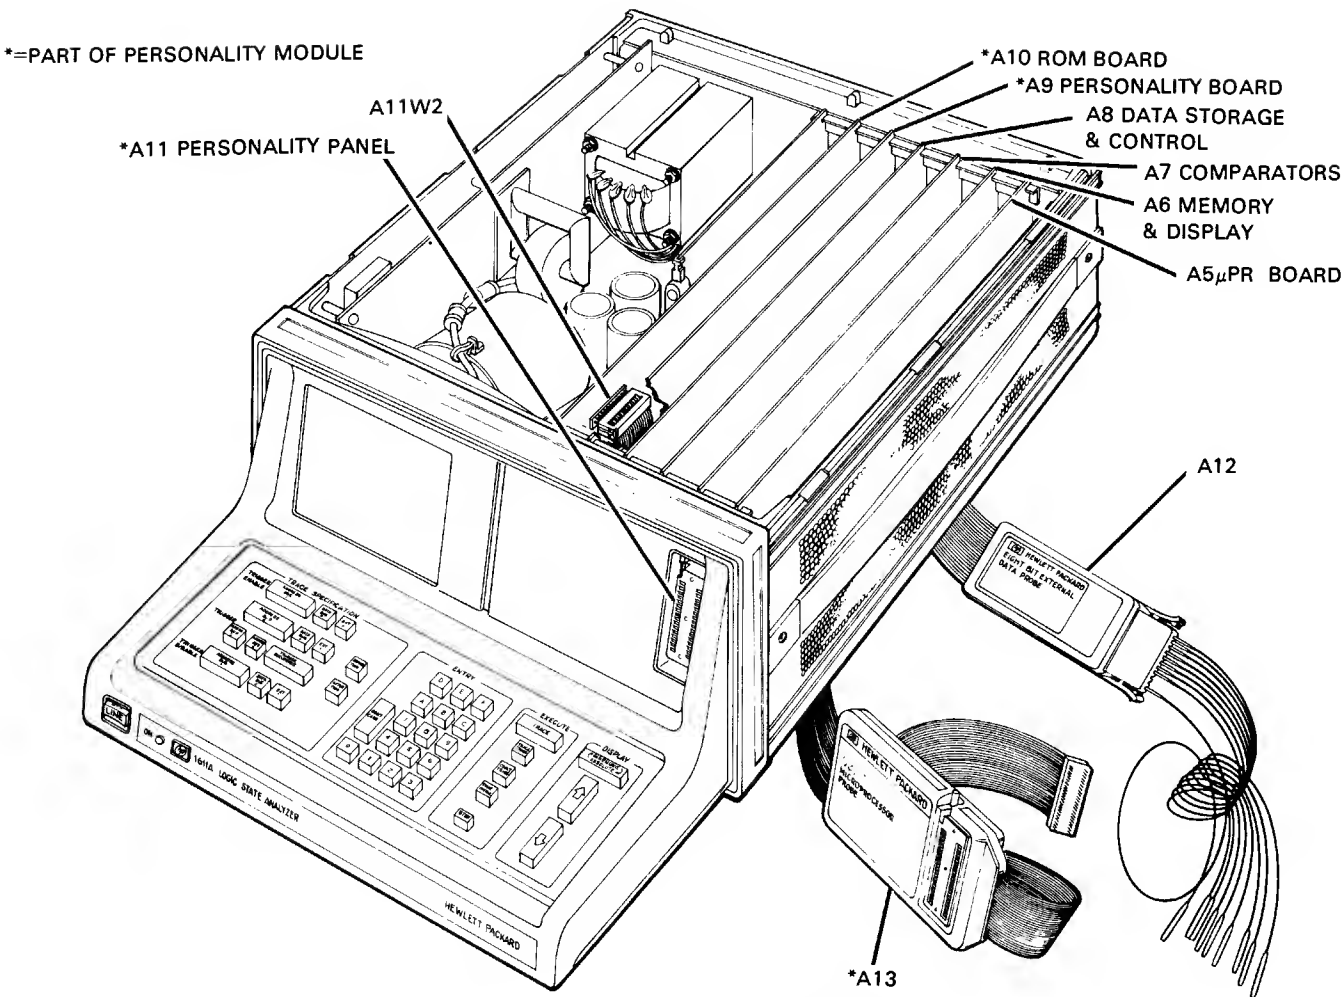

Figure 2-1. Model 1611A Assembly Locations
2-3. Figures 2-1 and 2-2 are provided to facilitate component identification.
- c. Loosen captive screw on rear of 1611A top cover. Remove top cover and disconnect ribbon cable A11W2 from A9 (see figure 2-1).
k. Install A10 Option Z80 ROM Board and A9 Option Z80 Personality Board onto Main Board A1 as shown in figure 2-1.
m. Reinstall A5, A6, A7 and A8 boards onto Main Board A1 as shown in figure 2-1.